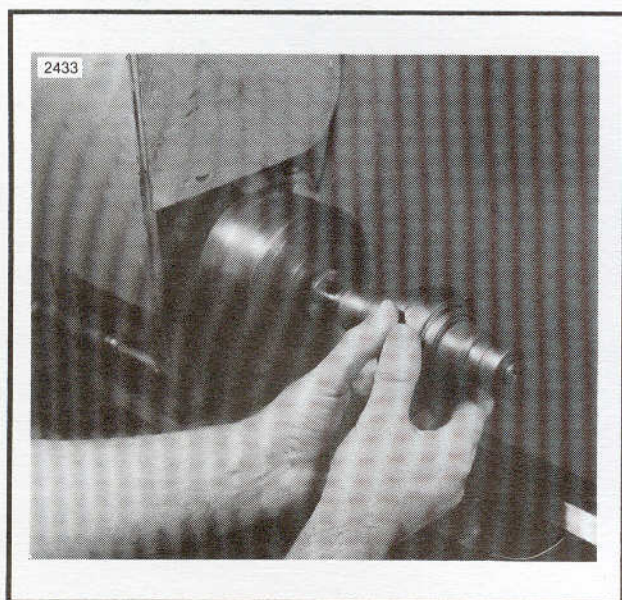

Figure 3-68. Lap Connecting Rod
1. See Figure 3-68. Connecting rod lower races that are likely to clean up within the range of oversize bearing rollers and are otherwise in serviceable condition, should be trued and sized up with CONNECTING ROD LAPPING ARBOR, Part No. HD-96740-36.